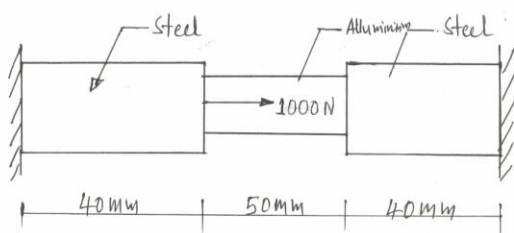

Figure 1
- 1A. Briefly explain the general steps of Finite Element Analysis (04)
- 1B. For the structure shown in the Figure 1, Find the displacement at each nodal location. Also find the stresses in each member of the structure. Given, $E_{steel}=200GPa$, $E_{al}=70GPa$ area of cross-section $A_{steel}=1000mm^2$ $A_{al}=700mm^2$ (06)